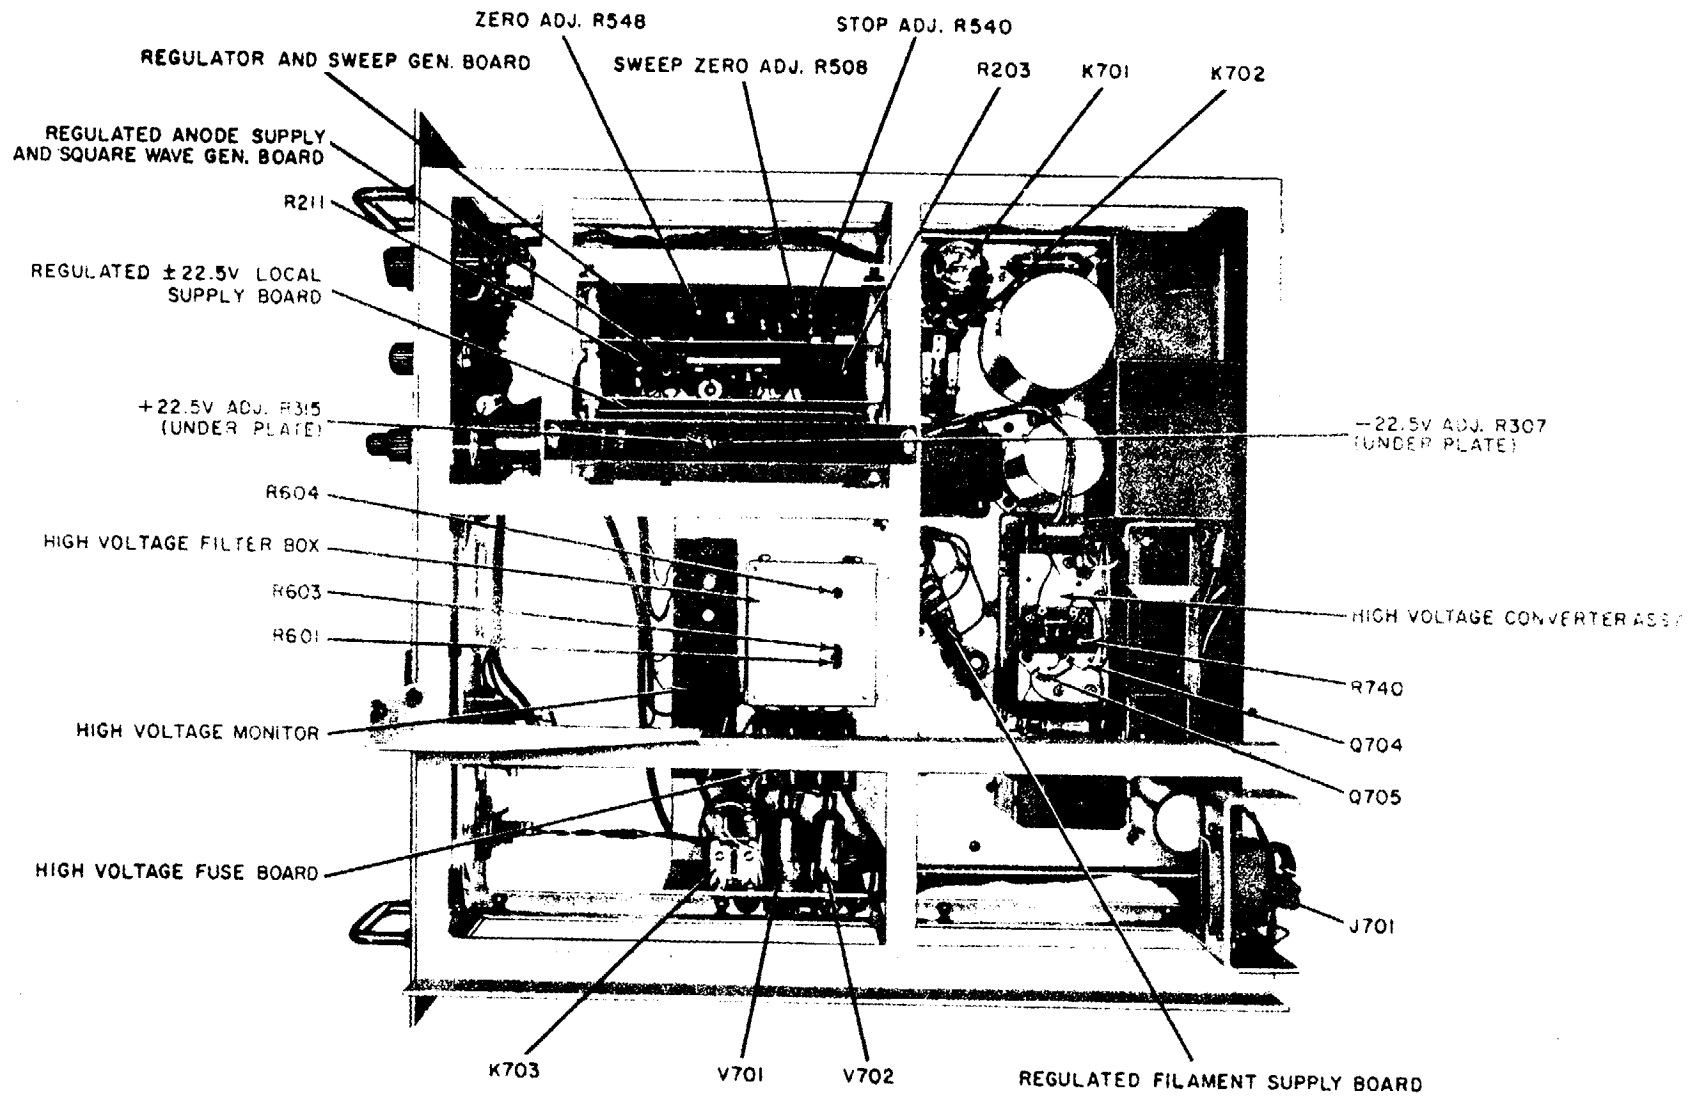
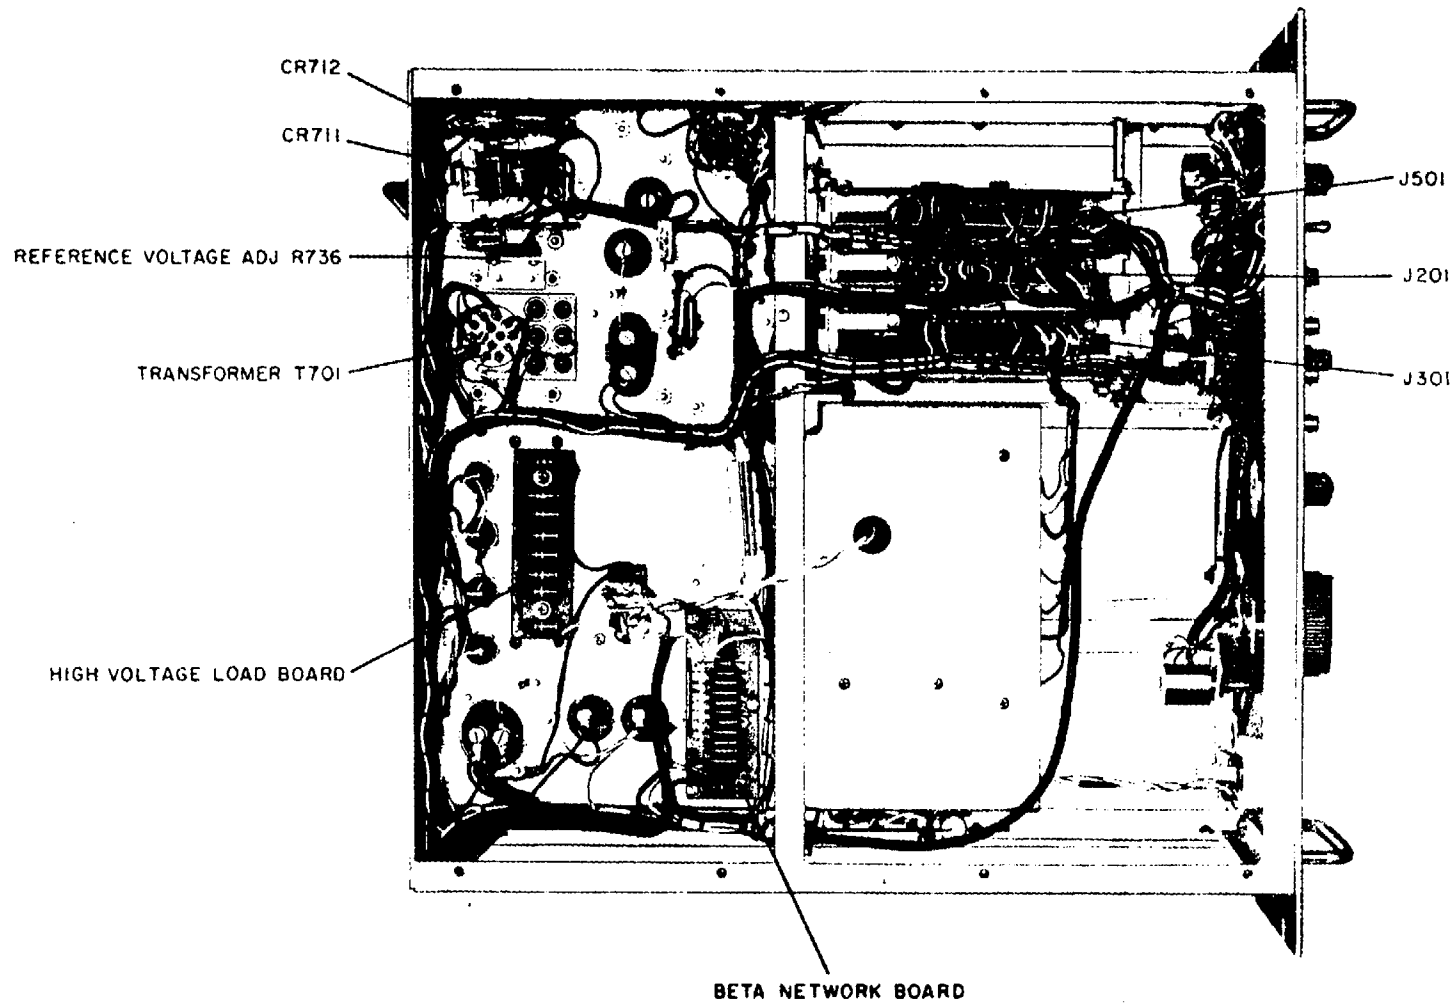

Figure 15. PRD 816-S10 Power Supply - Top View
Figure 16. PRD 816-S10 Power Supply - Bottom View
Maintenance adjustments for the Power Supply are performed on the ± 22.5 volt supplies, anode supply, square wave generator, sweep generator and regulator, the 12 kc oscillator, high-voltage filter, constant current source, and the RF Head. Plug in the appropriate RF Head, and set the line voltage to 115 volts ac by means of a variable power transformer. Internal views are given in figures 15 through 18 and schematic diagrams in figures 19 and 20.
- a. Remove the ANODE VOLTAGE SUPPLY board (figure 15) and connect the oscilloscope to pin A of J501 (figure 16).
- d. Adjust sweep zero adjust R508 and sweep amplitude R540 (figure 15) for a square-wave display of 8 volts peak-to-peak centered around zero volts.
- i. Connect the digital voltmeter to the REF and GROUND test points on the BWO simulator. Adjust R736 (figure 16) for a meter indication of -18.0, ± 0.9 volts.
- l. Connect the digital voltmeter between the HELIX VOLT and GROUND test points on the BWO simulator. Adjust R548 (figure 15) for a meter indication of 35.0, \pm 1 volt.
- f. Connect the digital voltmeter across R203 (figure 15) on the anode supply board and adjust R203 for an indication of 0.0000 volt, ± 0.2 millivolt.
- a. Connect the counter with 10X probe to the collector of Q705 (figure 15) on the converter chassis.
- c. Adjust R740 (figure 16) for a square-wave frequency of 12 kc \pm 125 cps.
- e. Adjust R601, R603, and R604 (figure 15) for minimum 12-k cps ripple. The ripple should be adjustable to less than 20 millivolts peak-to-peak.